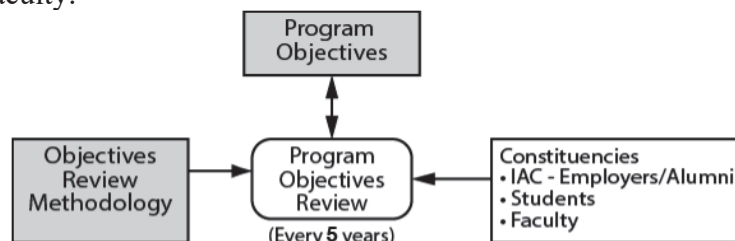

Figure 2.E.1 PEO Review Process
*Employers* – The ECEE program’s Industrial Advisory Committee, IAC, is shown in Figure 2.E.2. It is made up of the primary employers of the program’s graduates. The IAC reviews the PEOs at least every five years during an IAC meeting. Meeting minutes include feedback from the IAC and these minutes are available in the display materials at the time of the visit.